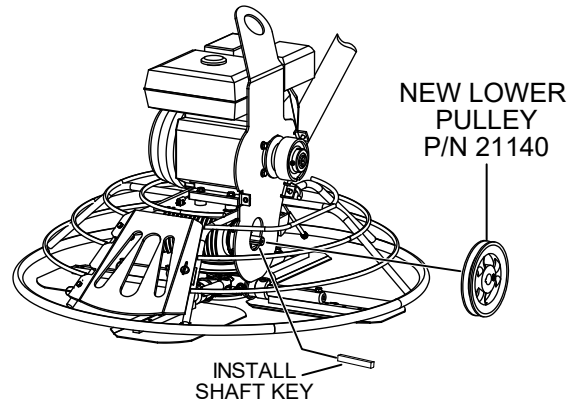

Figure 5. Install New Lower Pulley
- Insert the locking key into the engine shaft keyway (Figure 5).